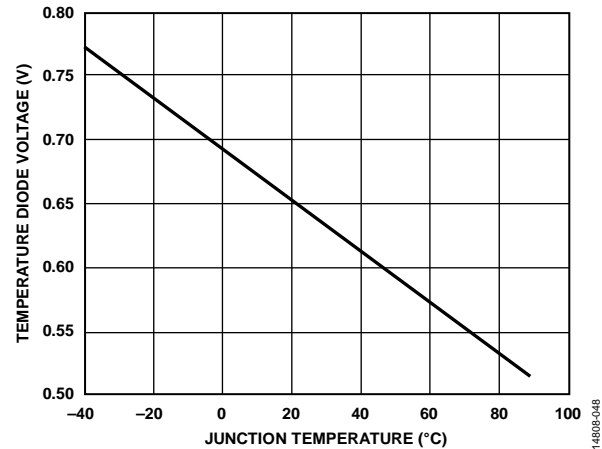

Figure 66. Temperature Diode Voltage vs. Junction Temperature
4. Set Register 0x18E6 to 0x01 to turn on voltage export of the central 1× temperature diode. The typical voltage response of the temperature diode is shown in Figure 66. Although this voltage represents the die temperature, it is recommended to take measurements from a pair of diodes for improved accuracy. The next step explains how to enable the 20× diode.